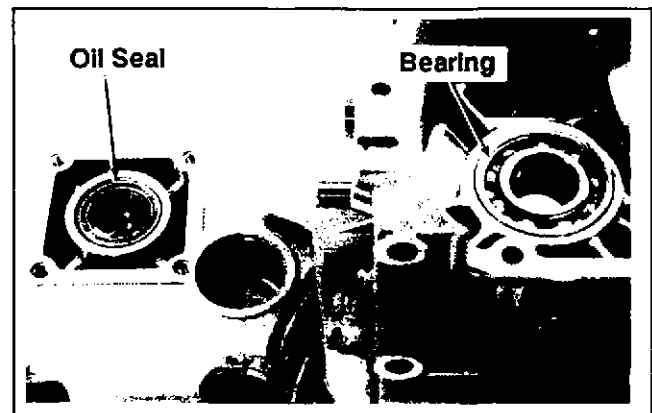

Figure 9-34. Removing Crankshaft Oil Seals And Bearings.*
- Remove the oil seals from the crankcase and closure plate. See Figure 9-34.